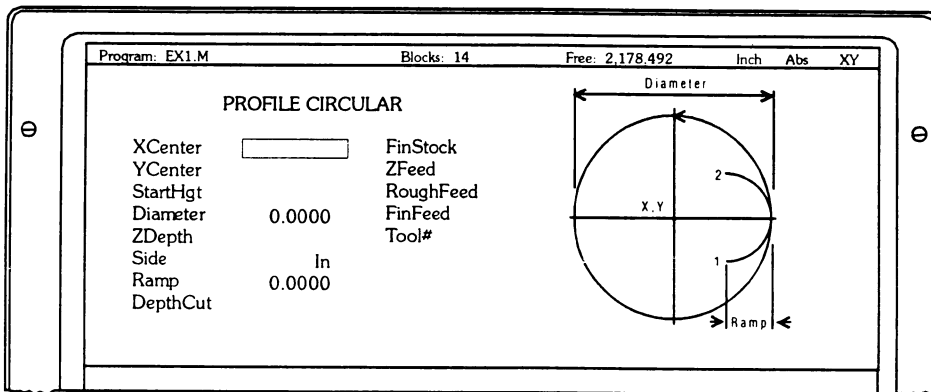

Figure 5, Circular Profile Screen Diagram
2. Machine feeds into the profile along Ramp #1, cuts profile to the **Diameter** specified, then ramps away from the work along Ramp #2, see *Figure 5. Circular Profile Screen Diagram*.
press (ENTER), (PROFILE CIRCULAR screen diagram displays, see Figure 5. Circular Profile Screen Diagram).